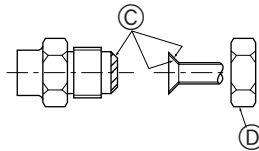

Fig. 4-1
4.2. Connecting pipes (Fig. 4-1)
- Apply thin layer of refrigerant oil to pipe and joint seating surface before tightening flare nut. ①
- Use two wrenches to tighten piping connections. ②
- Apply refrigerating machine oil over the entire flare seat surface. ③
- Use the flare nuts for the following pipe size. ④
- Ⓐ (Fig. 4-1)
- Ⓑ (Fig. 4-1)